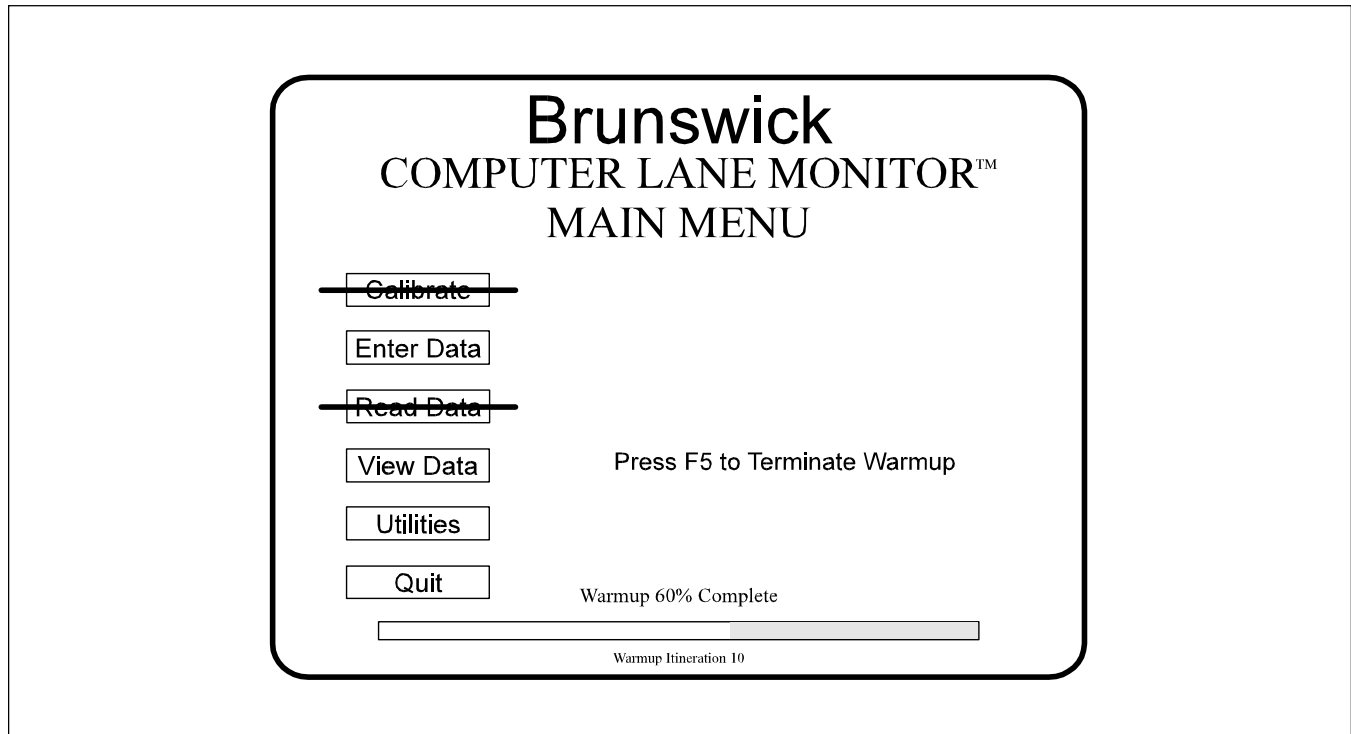

Figure 14 - Main Menu
1. The Main Menu appears next on the computer screen. See Figure 14.